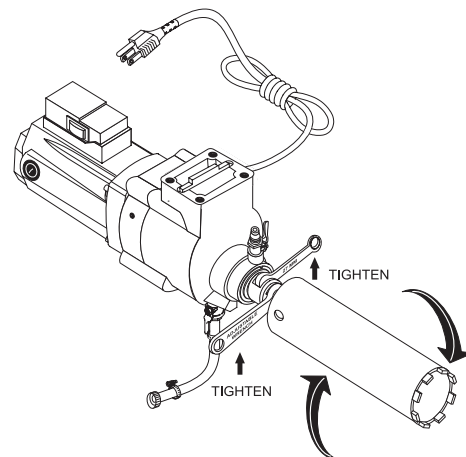

Figure 16. Attaching the Core Bit to the Core Drill
- Screw the core bit onto the main shaft of the core drill by turning it clockwise by hand until tight (Figure 16).